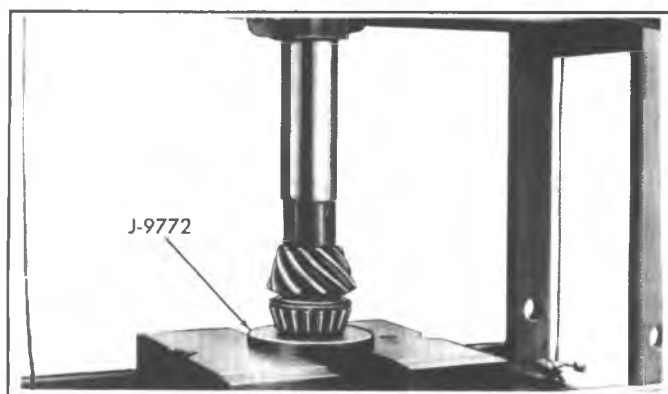

Fig. 4C-10--Installing Inner Pinion Core and Roller
2. Install dial indicator on carrier with indicator button contacting back of ring gear (Fig. 4C-8).